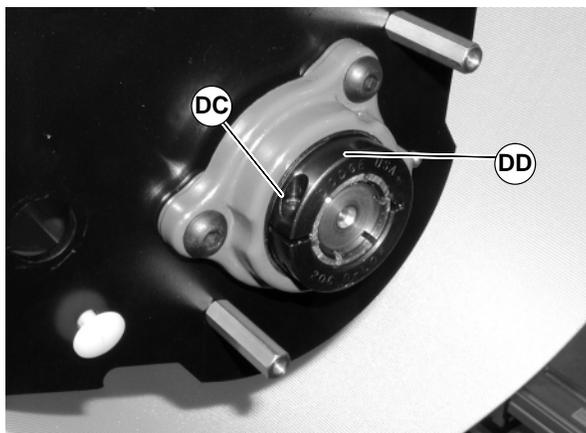

Figure 99
9. Loosen clamp screw (DC of Figure 99) and remove bearing collar (DD).